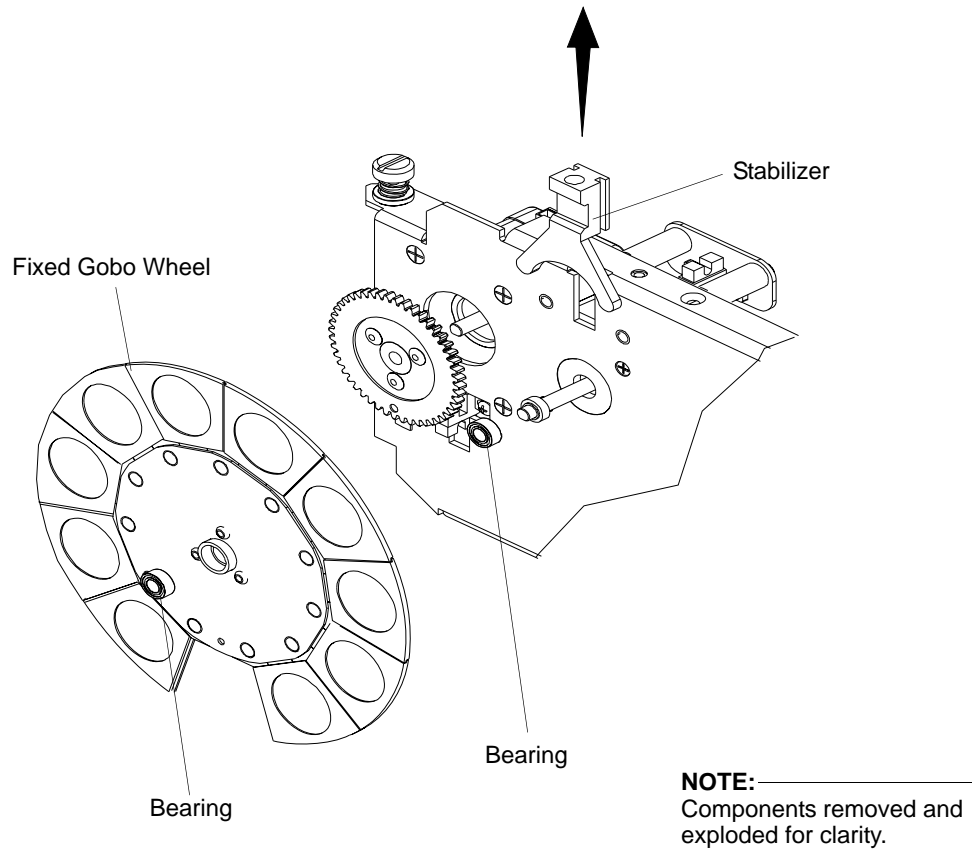

Figure 2-41: Fixed Gobo Wheel
Step 6. As shown in Figure 2-41, slide Stabilizer from mount.
- Step 7. Carefully lift wheel off shaft. Note bearings may come loose (refer to Figure 2-41 for bearing locations).